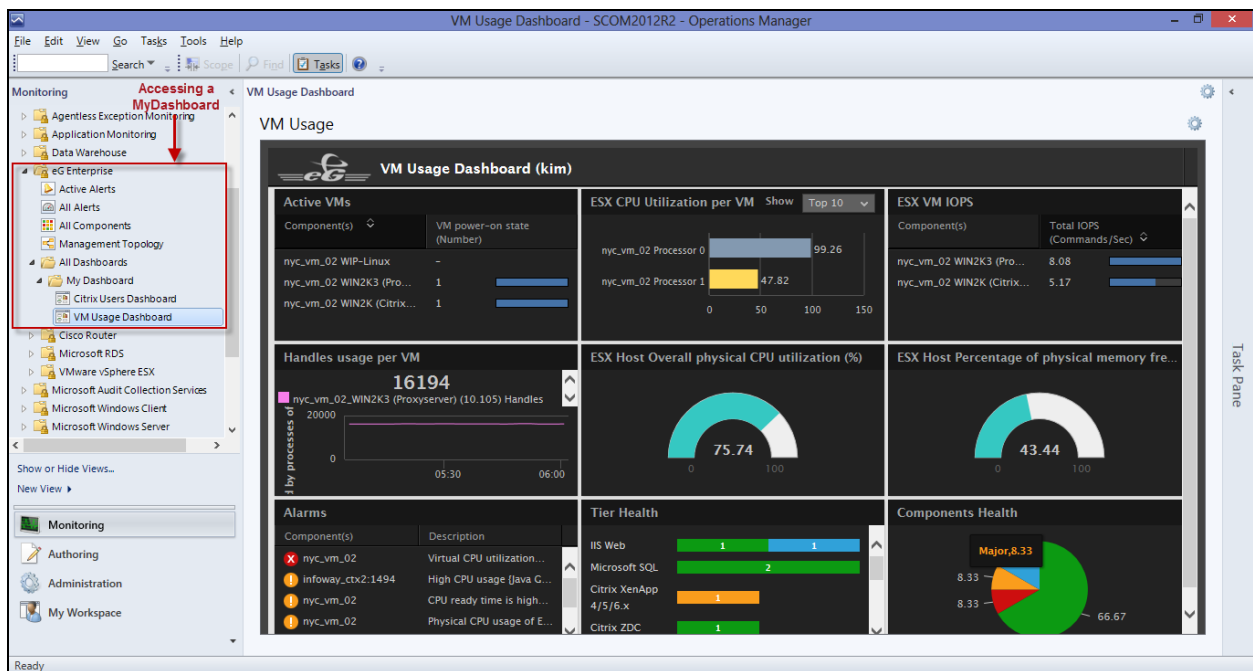

Figure 3.42: Viewing a custom MyDashboard in the SCOM console
2. Expand the **eG Enterprise** node in the left panel of the console. Then, expand the **All Dashboards** sub-node within. This will reveal the **My Dashboard** node. Expand this node to view all the MyDashboards created by or shared with the user whose credentials were used for integrating the eG manager with SCOM. To view a dashboard, click on it. The dashboard will then be displayed in the left panel (see Figure 3.42).